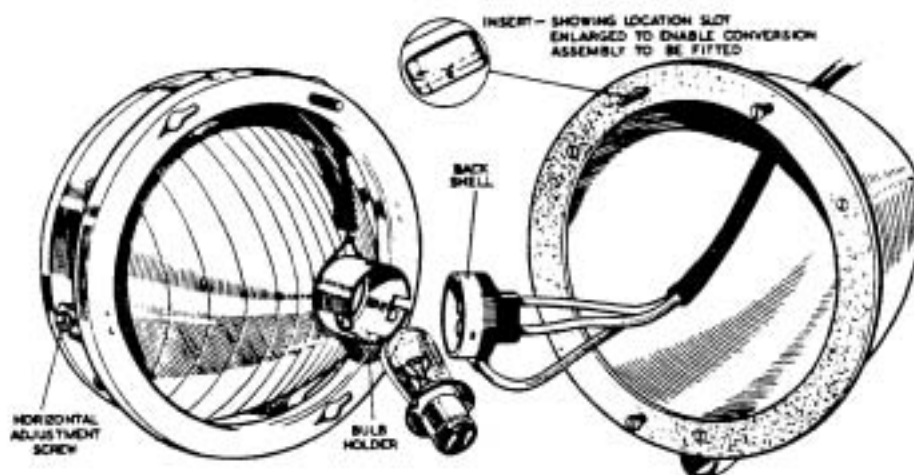

FIG. 1. STANDARD HEADLAMP WITH LIGHT UNIT REMOVED.
- (iv) To fit the Sealed Beam conversion assembly to the body of the head-lamp, it will be necessary to open up the vertical adjustment screw location slot and cork washer to $13/16$ " wide by $7/16$ " deep, as shown in the "INSERT" Fig. 1.